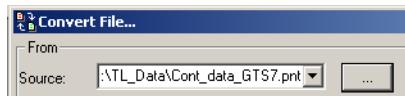

Figure 3-4. Convert File – Source
4. Click **Open**. The path of the source file displays in the *Source* field (Figure 3-4).